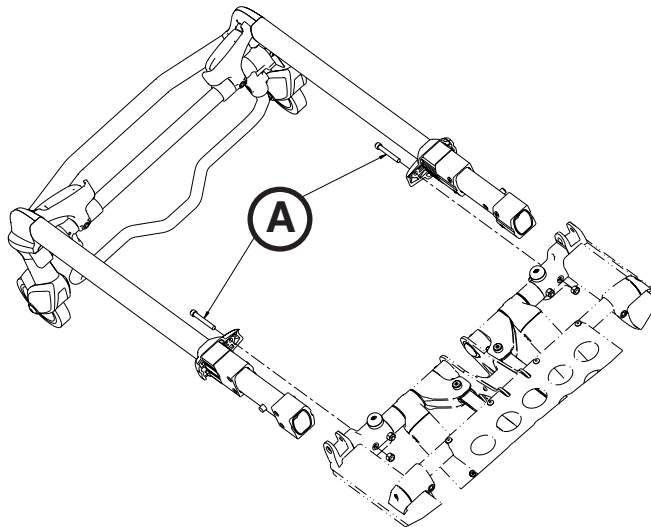

Figure 85
2. Using a 7/16" combination wrench and a 3/16" hex wrench, remove the two screws (A) that secure the cap bearings to the base litter interface bracket (one on each side) (Figure 85).